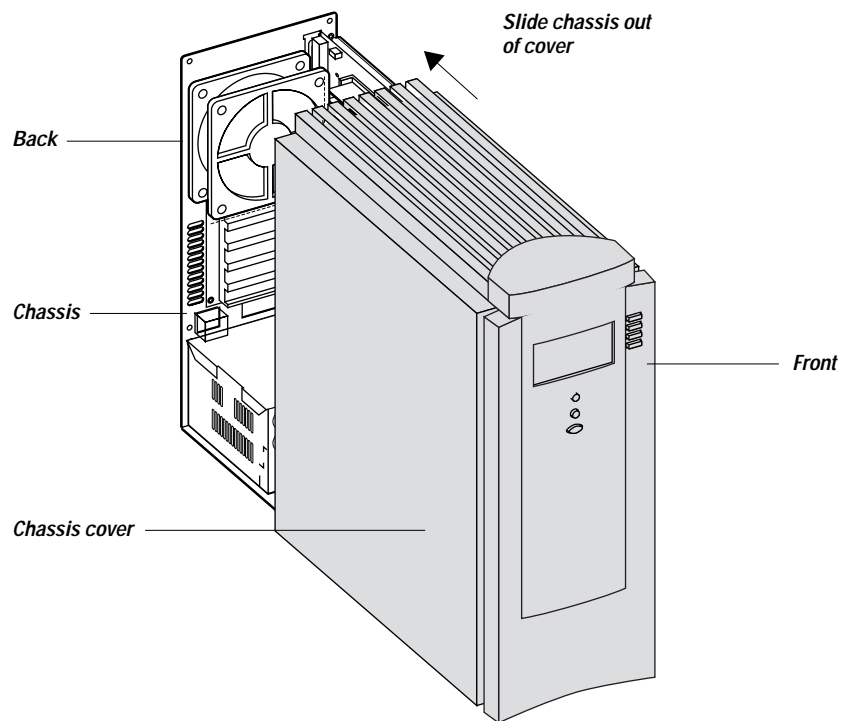

Figure 5-3 Removing the Fiery XJ BP100 chassis cover
5. *Pull the chassis out of the chassis cover (see Figure 5-3 on page 5-5). The internal components of the Fiery XJ BP100 are now accessible.*